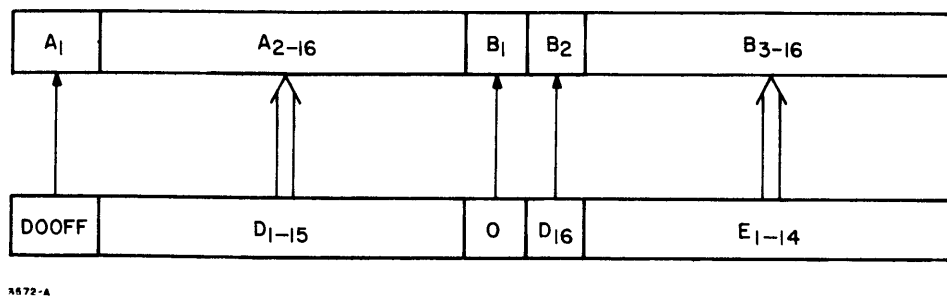

Figure 5. Forming the Product, MADFF Reset
Assume that the contents of the shift register are now equal to octal 77. This causes the sign of the remainder to be stored in the A00FF and the B-register to be shifted left. The B-register, but not the A-register, is shifted to fill the previously ignored bit 1 position of the B-register. Next, the remainder is examined (REMOK). Either of two conditions leads to the setting of the MADFF. They are (D) = 0, or (D)1 = (AZ) = 0. Figure 5 illustrates the possible combinations of remainder and dividend and the action required, if any, to terminate in a proper divide.